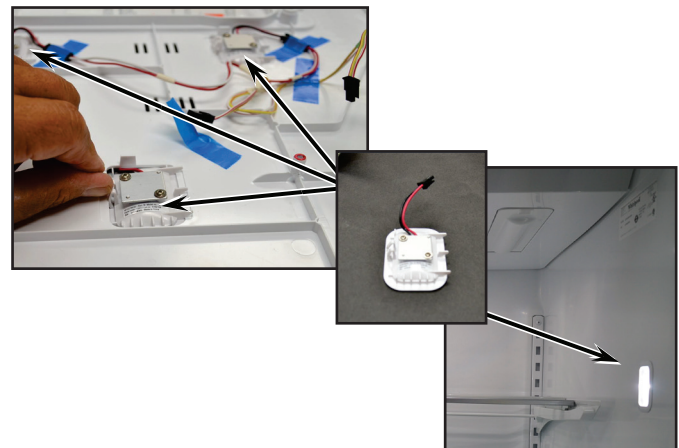

FIGURE 33
1. To remove LED light modules from water reservoir cover, lift out. See *Figure 33*.